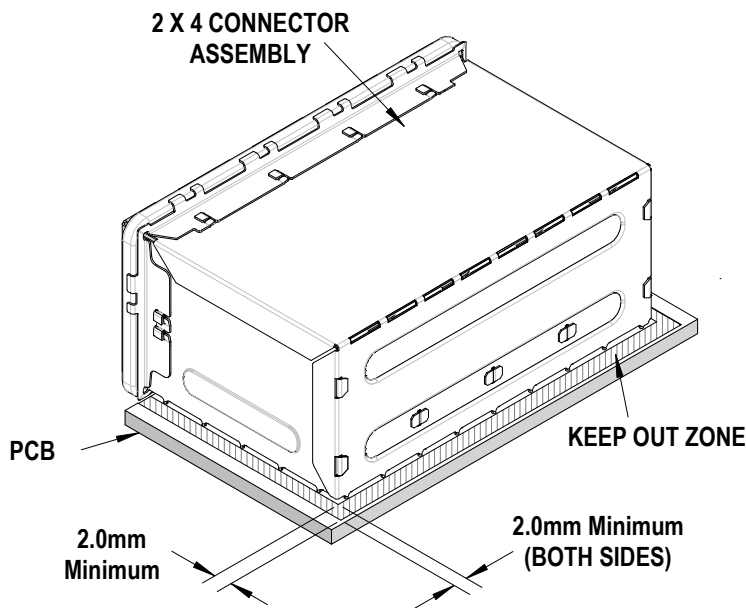

Figure 1
2. These tools require a "Keep Out Zone" around the connector free of components. The rear of the connector should be 2.0mm (0.08 in). The right and left sides should be 2.0mm (0.08 in). See Figure 1.